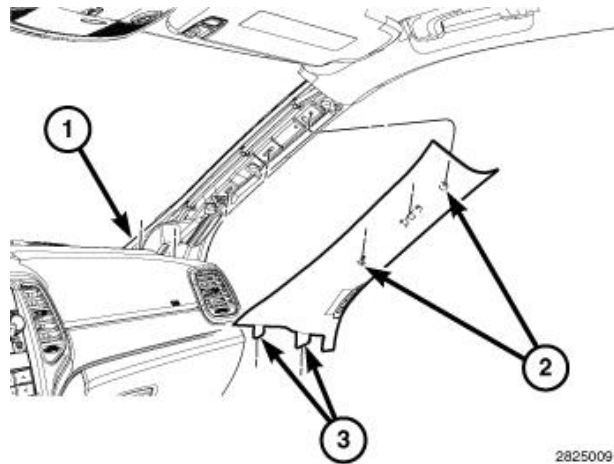

Figure 12 – A-pillar Trim
18. Using a trim stick or equivalent, release the clips (2) and loosen the A-pillar trim panels (1) (Figure 12).